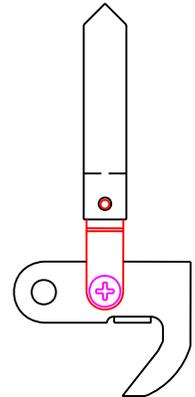

FIG. 4
2. Hold LATCH assembly as shown in fig. 4